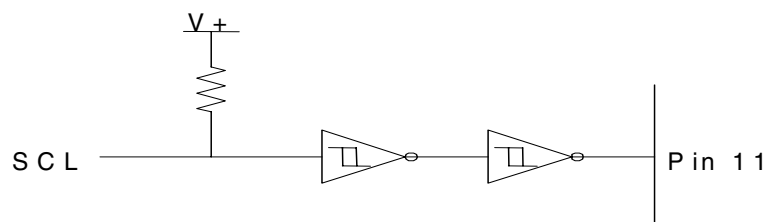

Figure 5. I²C Mode SCL Buffer Example
21. Pin 11 (SCL/CCLK) of the CS4228A does not have sufficient hysteresis to enable the use of standard two-wire mode configurations with a resistor pull-up. This issue can be worked around by placing a Schmitt Trigger buffer, for example a 74VHC14, on the SCL line just prior to the CS4228A. See Figure 5. This will not affect the operation of the bus in either mode, as pin 6 is an input only.